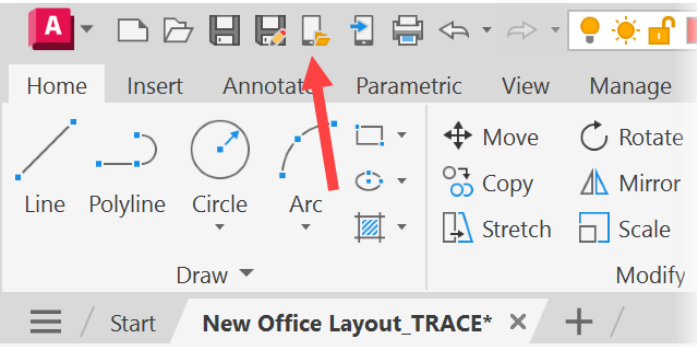

Figure 16.30: The Open From Web & Mobile icon on the QAT
1. Open the AutoCAD desktop application and click on the **Open From Web & Mobile** icon on the QAT, as shown in *Figure 16.30*.